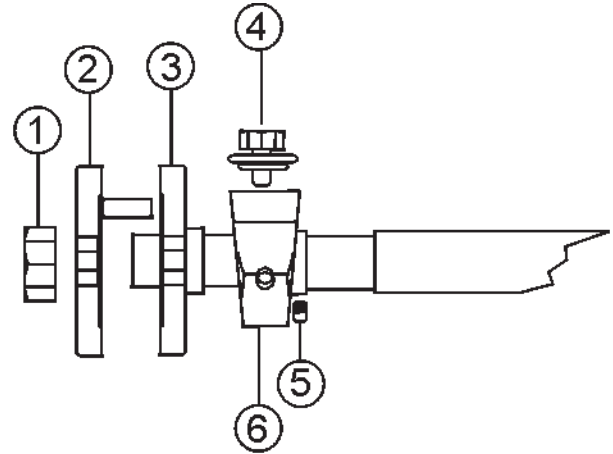
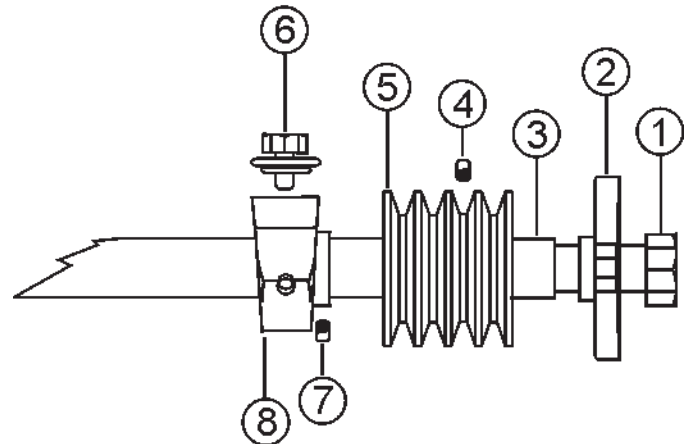

Figure 57. Blade Side Bearing (Right Side)
Figure 58. Pulley Side Bearing (Left Side)
The SP2 saw is supported by “tapped base lock collar (w/set screw)” self-aligning **Blade Shaft Bearings** (Figures 57 and 58). These heavy duty bearings support the 1-1/4 blade shaft, and have grease (zerk) points conveniently located for service.
Reference Figure 57 & Figure 58 for steps 4-9
4. Remove **Blade Hex Nuts** (Figures 57 & 58, item 1) and
Outside/Inside Blade Flanges (Figures 57, item 2 & 3)
5. Loosen **set screws** (Figure 58, item 4) and slide **Pulley** (Figure 58, item 5) off the Blade Shaft. Loosen Bearing set screw, remove **Bearing Bolt** (Figure 58, item 6) and slide the **Blade Shaft Bearing** (Figure 58, item 8) off the blade shaft.
6. Loosen **set screws** (Figure 57, item 5), remove **Bearing Bolt** (Figure 57, item 4) and slide the **Blade Shaft Bearing** (Figure 57, item 6) off the blade shaft.